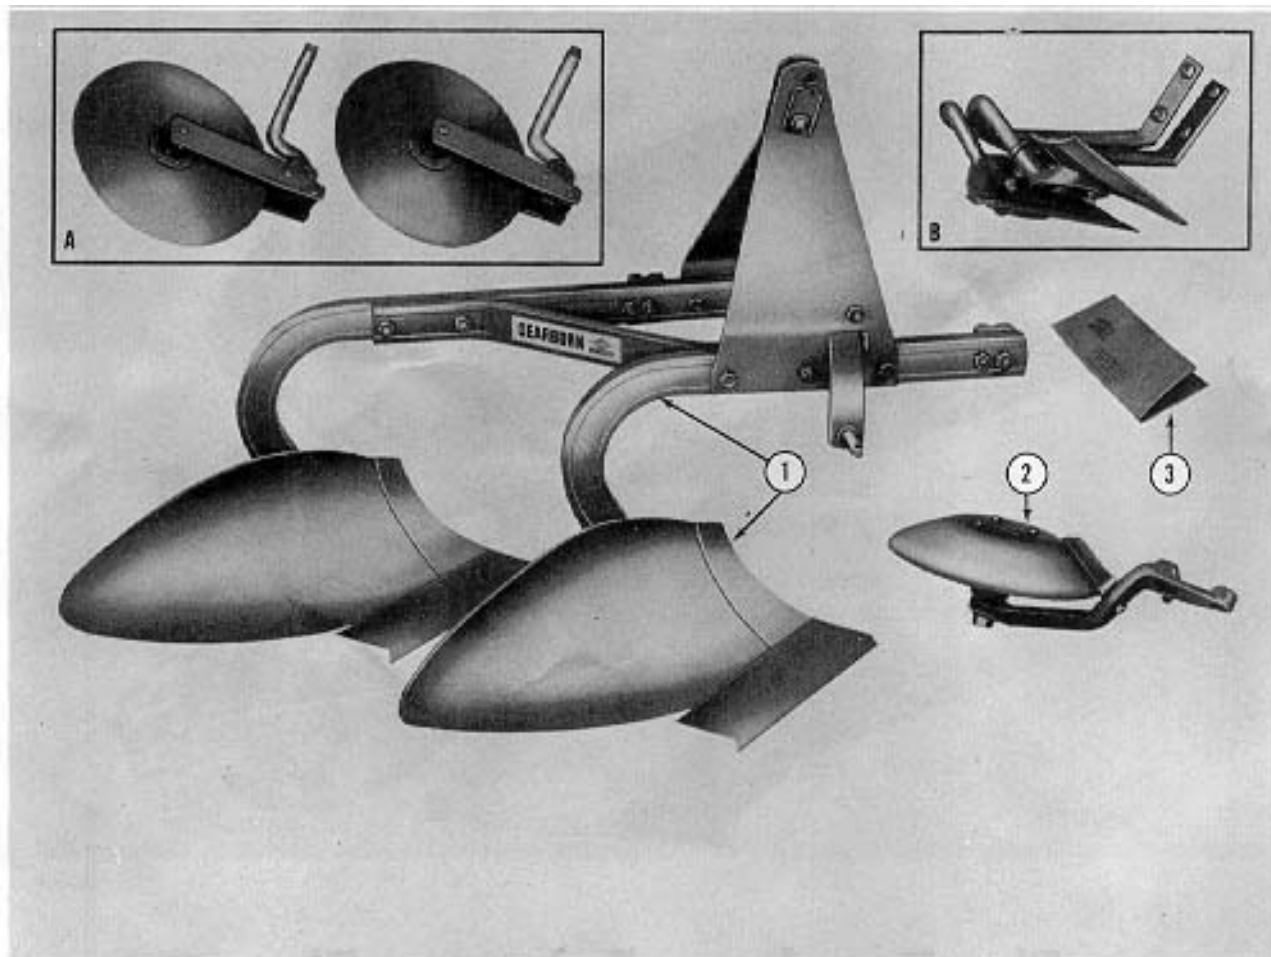

Figure 1
The Dearborn Economy Plow is shipped in two bundles which contain the parts listed below. Check the shipment against this list and Figure 1 to be sure all parts are received.
NOTE: *The coulters (see insert A), Figure 1, and the jointers (see insert B) are bundled for shipment as shown and are sold separately. The Assembly Manual envelope (3), Figure 1, is taped to the plow frame.*